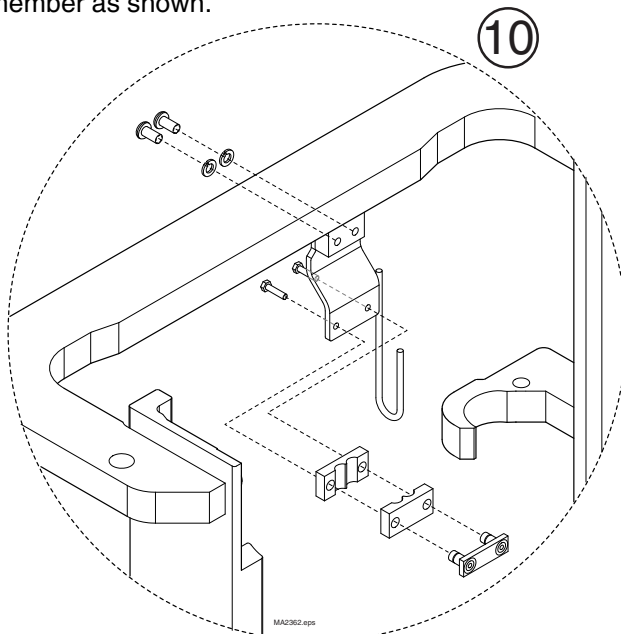

Figure 22. Upper Outer bracket.
26. Route hoses down to bracket attached to upper outer crossmember. Tension hoses and clamp using parts as shown in Figure 22.